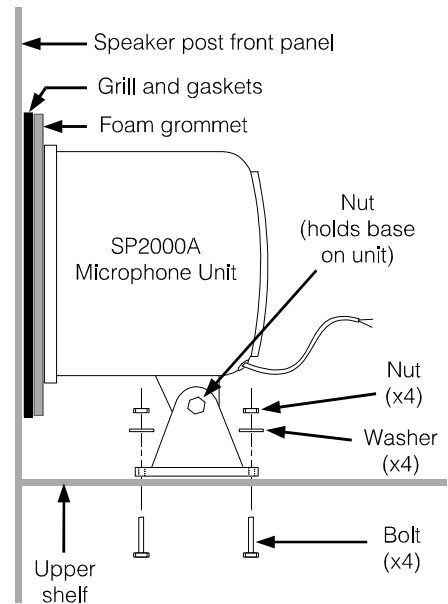

Figure 6. Microphone unit installation in the SPP2
Install the SP2000A microphone unit above the upper shelf of the SPP2 Speaker Post in the position shown in Figure 6 as follows:
- ! Position the four holes in the base over the holes in the shelf, and fasten it in place with the four sets of nuts, washers and bolts as shown in Figure 6. Only make the nuts finger-tight, so the position of the base can be adjusted later.